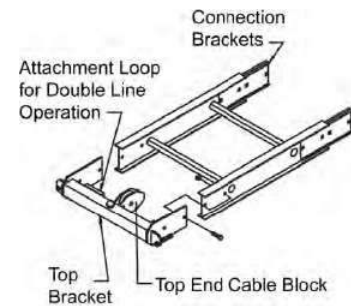

Figure 2
- Attach the top end bracket to the top section of the assembled ladder. The Top Bracket can be bolted to the top of the ladder section See Figure 2